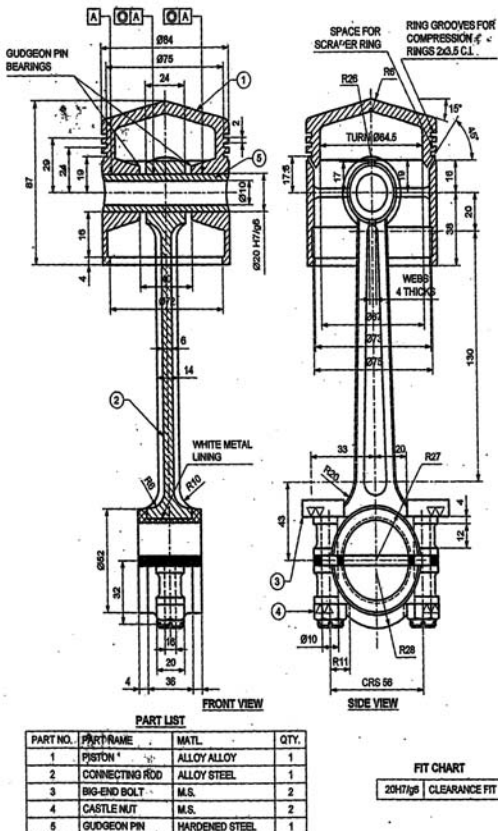

Fig. No. 06
a) Fig. No. 06 shows the assembly of piston and connecting rod assembly. Draw the detail drawing of following parts.